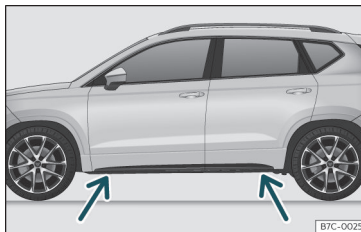

Fig. 62 Crossbar: brands.
- Find the support point on the strut (sunken area) closest to the wheel to be changed » Fig. 62.